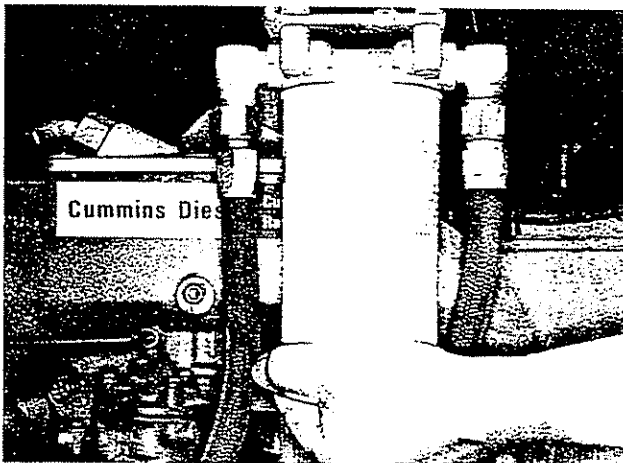

Fig. 2-19, (V11909). Changing "spin-on" type fuel filter
1. Unscrew and discard the spin-on type fuel filter. Fig. 2-19 and 2-20.